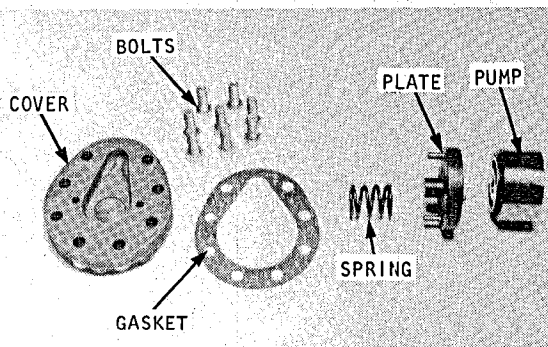

Figure 52
6. Figure 52 illustrates the oil pump assembly.